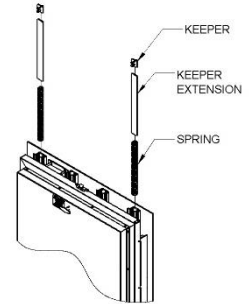

Figure 1
- c. Slide in the keeper extension until it rests on the spring. *(Figure 1)*